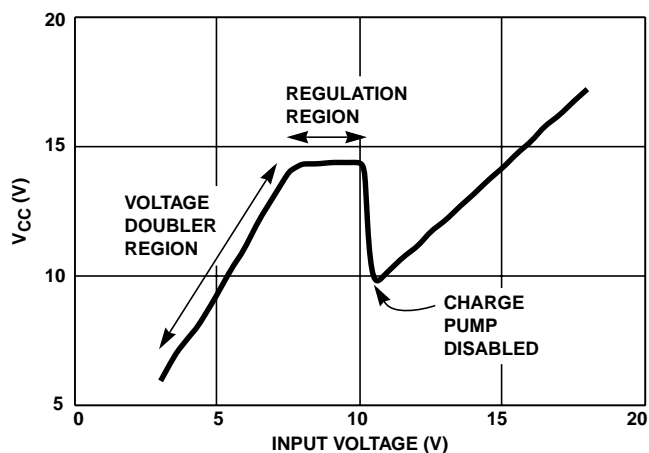
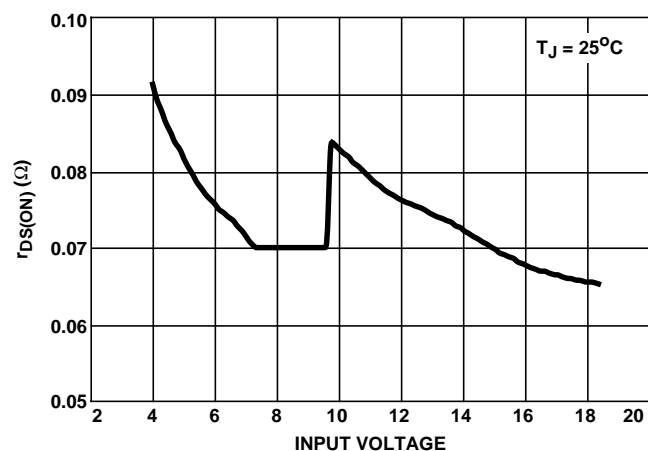
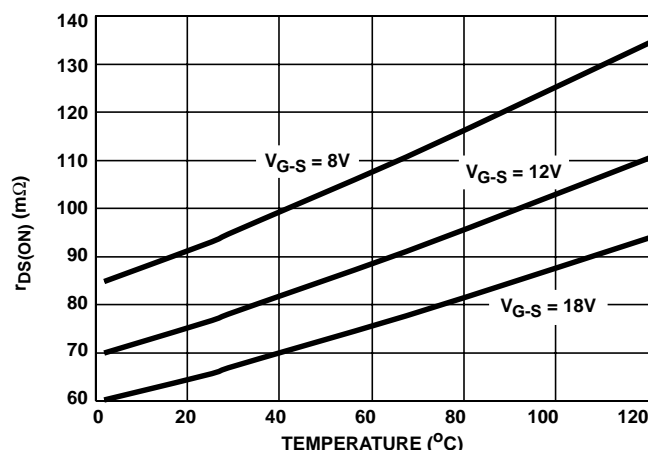

FIGURE 10. CHARGE PUMP REGULATOR INPUT VOLTAGE CHARACTERISTICS
FIGURE 14.  $r_{DS(ON)}$  vs INPUT VOLTAGE
FIGURE 15.  $r_{DS(ON)}$  vs JUNCTION TEMPERATURE
The charge pump regulator supplies control power ( $V_{CC}$ ) to the internal functions of the HIP5020. The charge pump operates for input voltage levels below 9.8V and is disabled for input voltages above 9.8V. Figure 10 shows the charge pump output voltage ( $V_{CC}$ ) as a function of the input voltage ( $V_{IN}$ ). For input voltages below 9.8V nominally, the charge pump operates in two regions - as a voltage doubler and as a voltage regulator. The charge pump operates as a normal voltage doubler when  $V_{CC}$  is below approximately 14.8V. The charge pump limits  $V_{CC}$  to approximately 14.8V in the regulation region. For input voltages above 9.8V, the charge pump is disabled and  $V_{CC}$  follows the input voltage less a diode drop.
Conduction losses are a significant portion of the power dissipation in a DC-DC converter. The HIP5020 conduction losses are the product of the square of the average output current and the MOSFET on-resistance -  $r_{DS(ON)}$ . The  $r_{DS(ON)}$  of the MOSFETs is a function of  $V_{CC}$  and junction temperature.  $V_{CC}$  changes with the input voltage as shown in Figure 10 above. Figure 14 shows the maximum  $r_{DS(ON)}$  of both MOSFETs as a function of input voltage for a junction temperature of 25 $^{\circ}\text{C}$ . The junction temperature of the HIP5020 also effects  $r_{DS(ON)}$ . Figure 15 shows the  $r_{DS(ON)}$  as a function of temperature for three gate voltage levels.
1. Assume that the gate voltage is equal to  $V_{CC}$ . Find the gate voltage at  $25^{\circ}\text{C}$  from Figure 10.
2. Multiply this number by the  $r_{DS(ON)}$  shown in Figure 15. Interpolate as necessary.